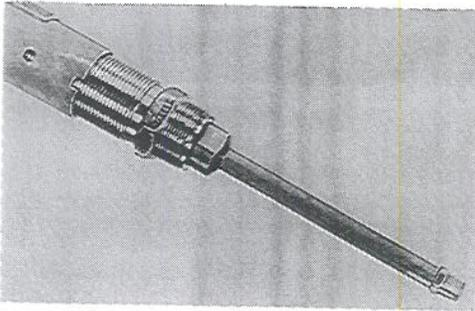

FIGURE 41
4. Attach completion plug to the plug inserting tool. Lubricate the tool threads and be sure the tool and plug thread together freely. Check to be sure threads on the plug and nipple are clean. Apply non-hardening pipe thread "dope" to the completion plug threads. **Figure 41.**